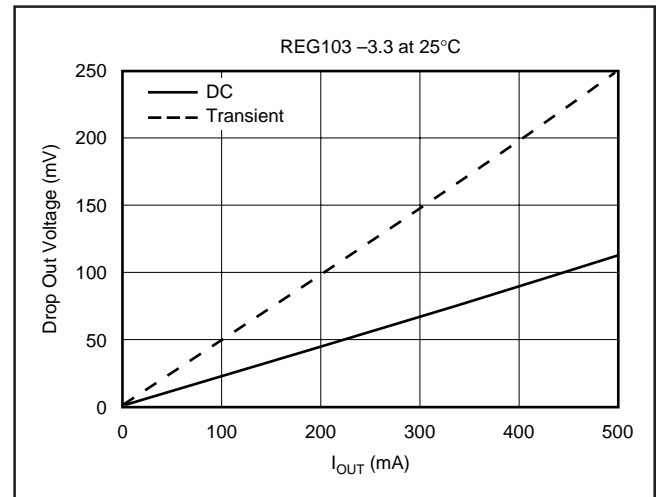

FIGURE 10. Transient and DC Dropout.
regulator's input-to-output resistance is the R_{dsON} of the DMOS pass element (typically 230mΩ). For static (DC) loads, the REG103 will typically maintain regulation down to V_{IN} to V_{OUT} voltage drop of 115mV at full rated output current. In Figure 10, the bottom line (DC dropout) shows the minimum V_{IN} to V_{OUT} voltage drop required to prevent drop-out under DC load conditions.
For large step changes in load current, the REG103 requires a larger voltage drop across it to avoid degraded transient response. The boundary of this "transient drop-out" region is shown as the top line in Figure 10. Values of V_{IN} to V_{OUT} voltage drop above this line insure normal transient response.